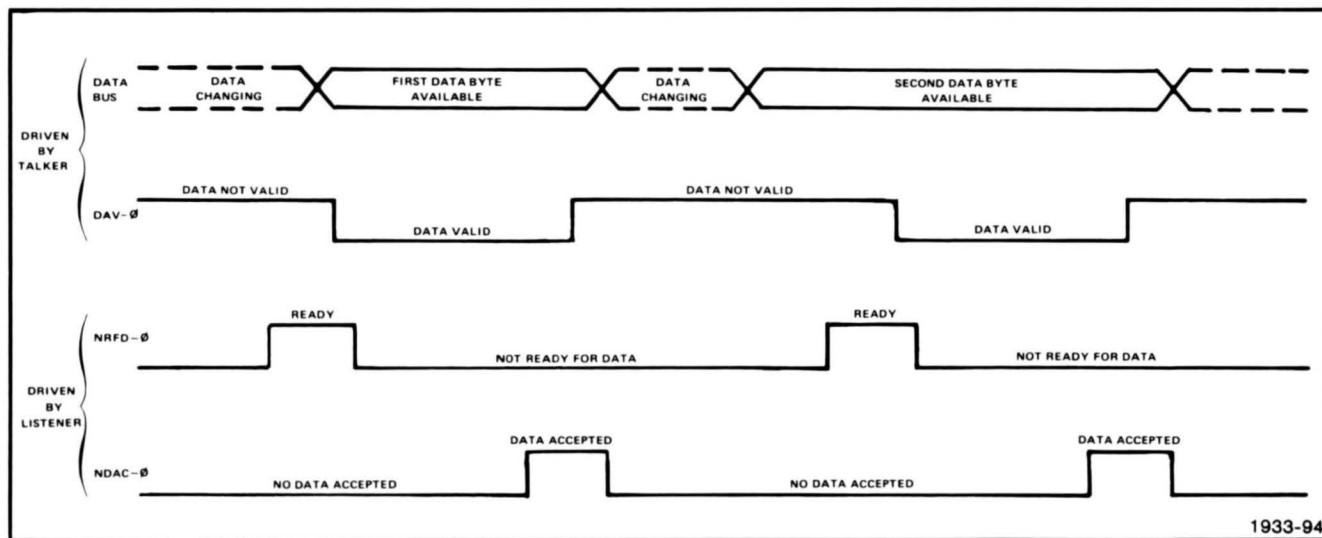

Figure 5-8. GPIB Handshaking Sequence.
**Handshake Sequence.** Figure 5-8 shows the handshake sequence by which the Transfer Bus regulates the exchange of data bytes over the Data Bus.